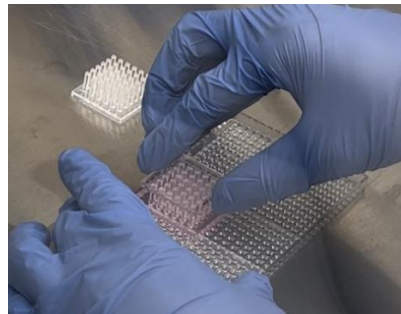

Figure 5. Stamping of the 36PillarPlate on the LoadingPlate to load Matrigel on pillars.
16. Stamp the 36PillarPlate on the LoadingPlate and press gently to load Matrigel evenly on the entire pillar plate. Repeat this Matrigel loading step for another pillar plate (**Fig. 5**).